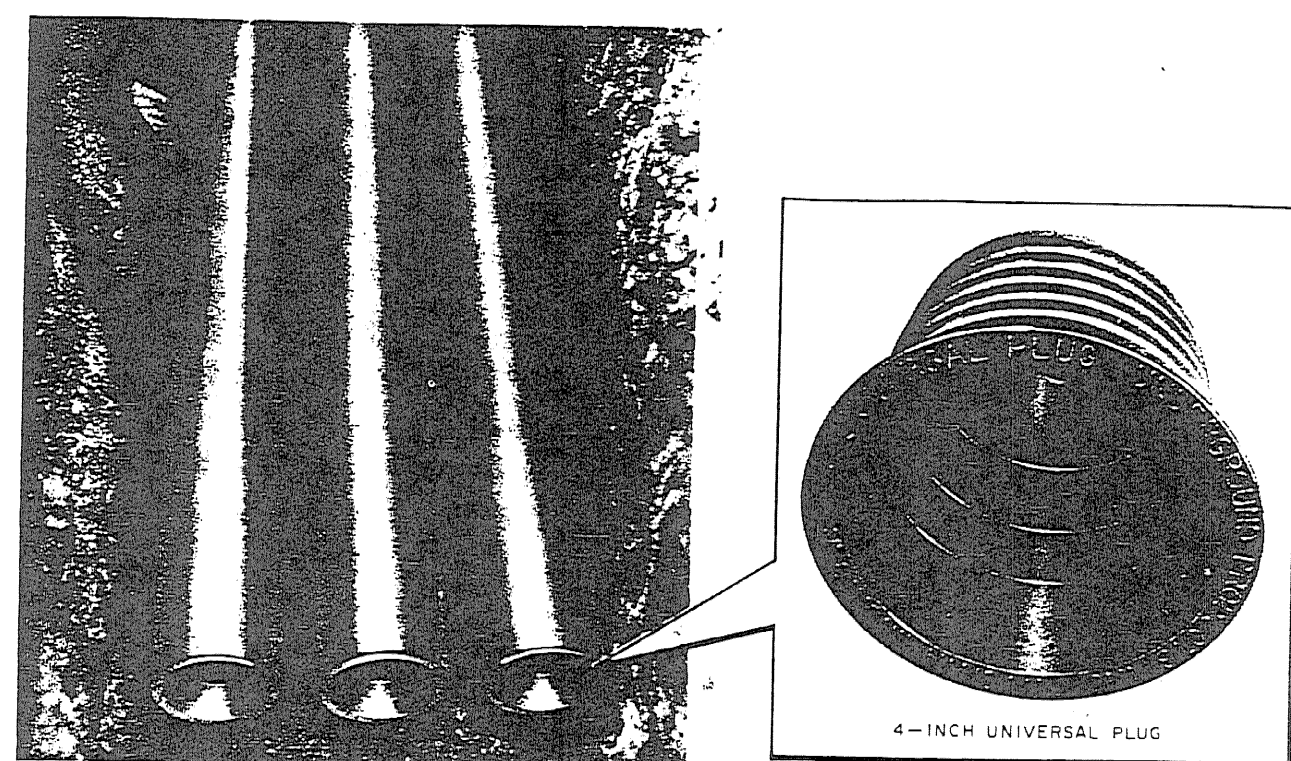

Fig. 8—Ducts Temporarily Plugged
5.11 When it is necessary to stop construction in a section, 4-inch universal plugs can be used to temporarily seal the ducts against mud, dirt, etc (Fig. 8). Such plugs also can be used to advantage during manhole construction to keep duct entrances at manholes free of debris.